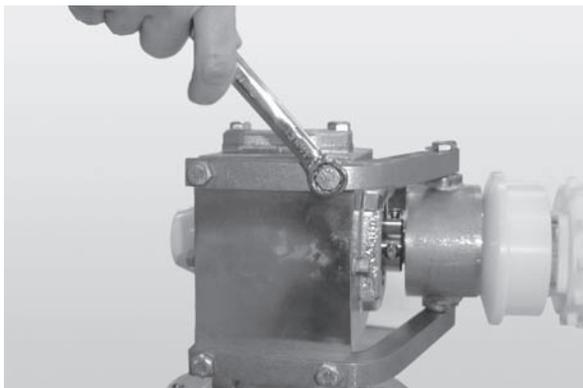

Figure 67
4. Unbolt the drive assembly and slide it off the bearing spindle (**Figure 67**).